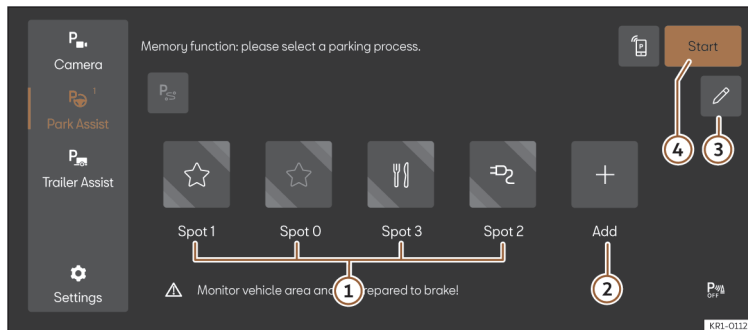

Fig. 142 Schematic representation: Parking system menu with memory function.
4. Select the function button, assign the symbol you want (>>> **Fig. 142 ①**) and confirm it.
2. If necessary, click on the parking space available icon in the Parking System menu >>> **Fig. 142 ①**. The function button will be displayed in copper.
3. Press the **Start** button >>> **Fig. 142 ④**.